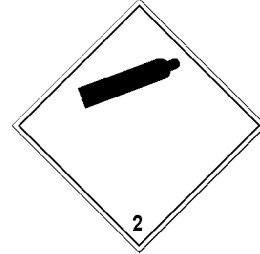

Fig 5
- For transport on public roads compressed air cylinders filled to more than 2 bar pressure are subject to the hazardous material transport regulations of GGVSE and ADR. The compressed air cylinders or the transport package, respectively must be labelled with the hazard label No. 2.2 according to subsection 5.2.2.2 ADR (see Fig 5).